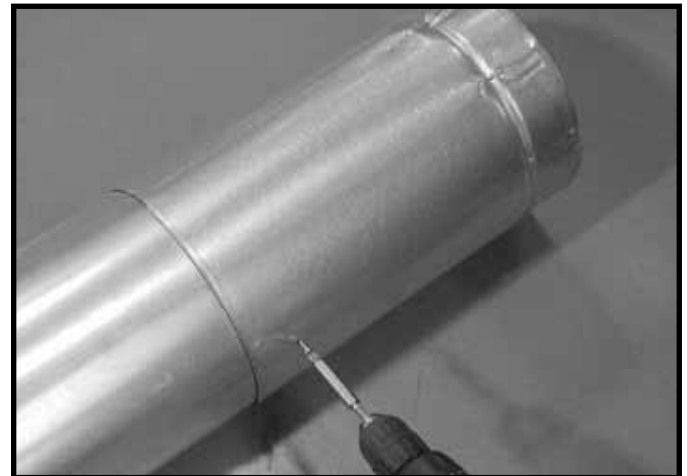

Figure 10.7 Screws into Slip Section
- Secure the pipe and slip section with two screws no longer than 1/2 in. (1,3 cm), using the pilot holes in the slip section. See Figure 10.7.